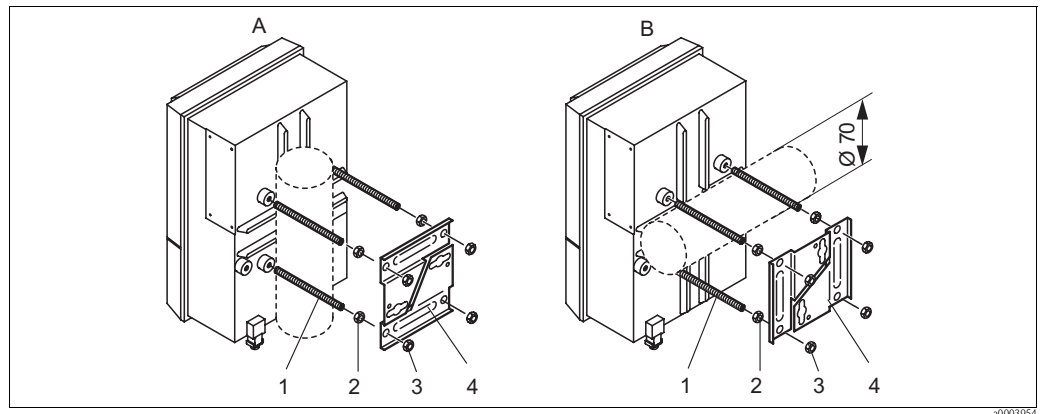

Fig. 13: Post mounting
1. Screw the four securing screws (item 1) into the threaded openings on the transmitter.
2. Counter every securing screw with a nut (item 2).
4. Push the securing plates (item 4) onto the securing screws in accordance with Fig. 13.
5. Screw a nut (item 3) onto each securing screw and tighten it so that the transmitter is securely fastened to the post or pipe.